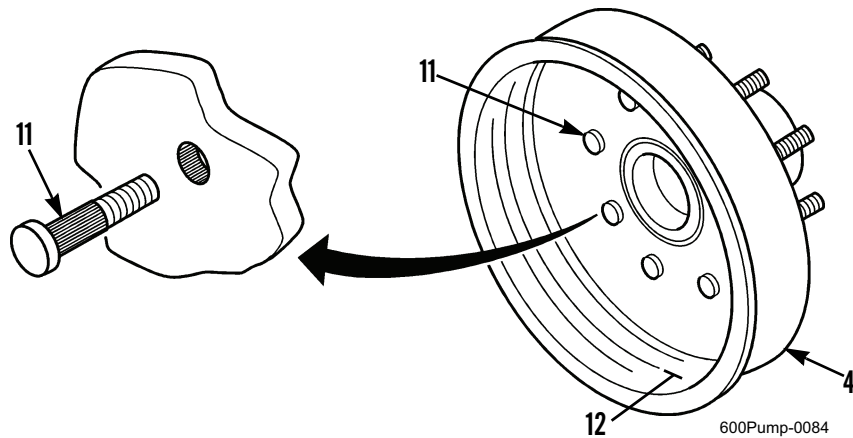

Figure 3. Wheel Studs and Hub/Drum Inspection.
5. Inspect hub/drum for cracks, breaks, and excessive wear and scoring. Measure inside diameter (braking surface) (Figure 3, Item 12) of drum. If inside diameter exceeds 12.09 in. (30.7 cm), replace hub/drum.
6. Inspect studs (Figure 3, Item 11) for cracks, breaks, wear, or other damage. If any stud is damaged, drive stud out of hub/drum (Figure 3, Item 4). Discard stud.
7. Align splines on new stud (Figure 3, Item 11) with splines in hub/drum (Figure 3, Item 4), then press stud into hub/drum until stud shoulder rests against hub/drum.